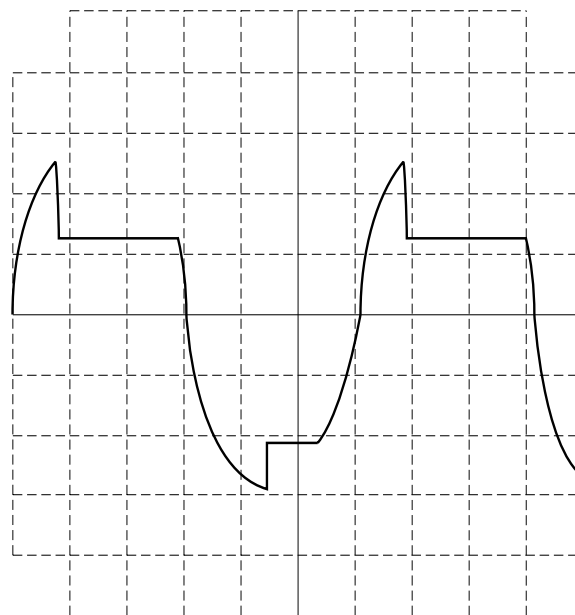

Figure 5. ODEP Limiting Wave Form
**Procedure:** Load the amplifier to 2 ohms on each channel. Inject a 60 Hz sine wave and adjust for 15 Vrms at the output. After a few minutes observe a wave form similar to Figure 5. Remove the input signal from both channels and allow the amplifier to cool for a few minutes. Switch the amplifier to Parallel Mono and remove the load from Channel 1. Inject the signal into Channel 1 and observe that ODEP limiting occurs at the output of both channels. Remove the load from Channel 2, and install the load on Channel 1. Again, observe that both channels limit. Return all amplifier controls to standard initial conditions. Remove the fan obstruction.